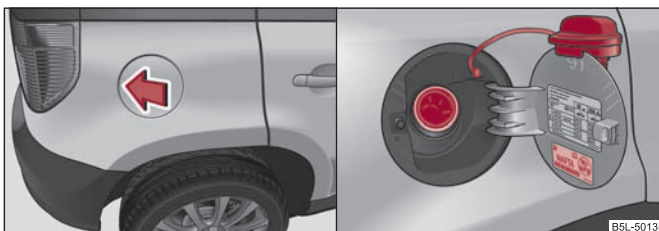

Fig. 11 Right rear side of the vehicle: Fuel filler flap / fuel filler flap with cap unscrewed
- Press in the middle of the left area of the fuel filler flap in direction of arrow ⇒ fig. 11 - left.
- Unscrew the fuel filler cap anti-clockwise and place the fuel filler cap from above on the fuel filler flap ⇒ fig. 11 - right.